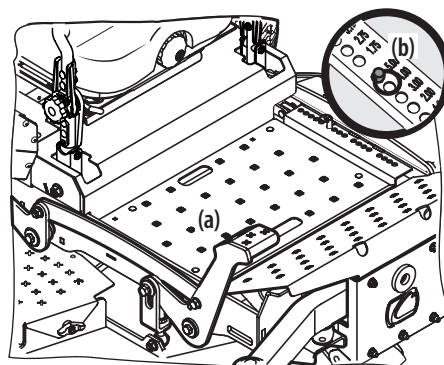

Figure 3-13
1. Use the deck lift pedal (a) to raise the deck to its highest position, place the clevis pin (b) attached to the tractor into the desired index hole on the deck height index, then slowly release the deck lift pedal (a). See Figure 3-13.